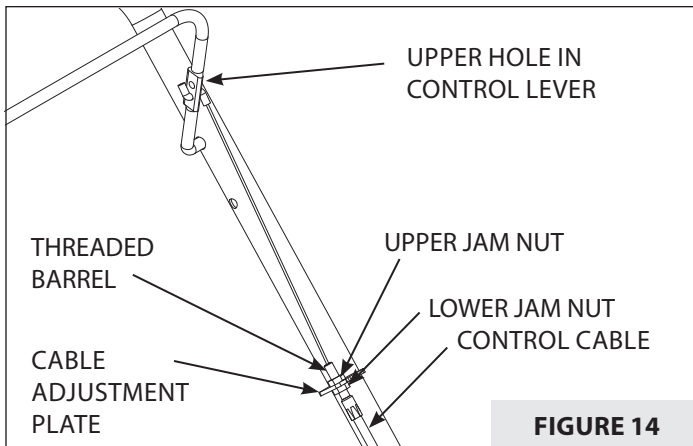

FIGURE 14
2. Loosen the lower nut on the control cable by rotating it clockwise. **SEE FIGURE 14.**